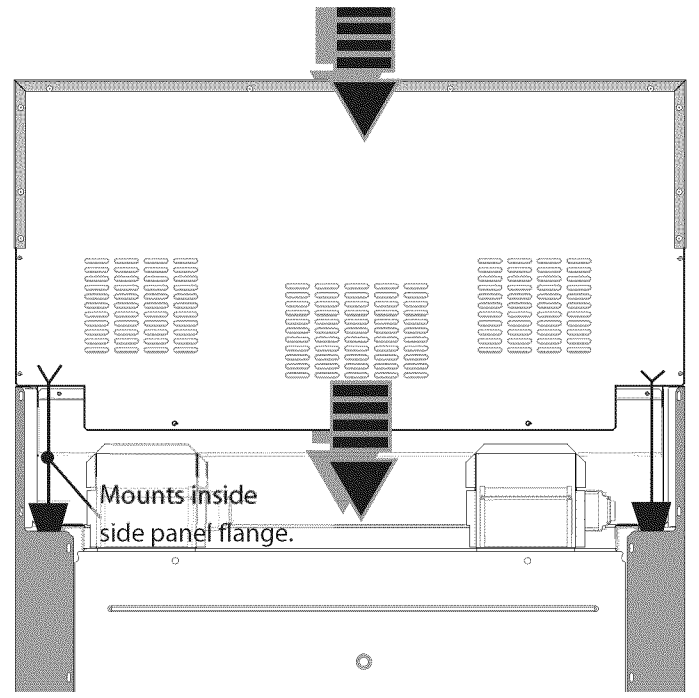

Figure 24: Backguard Installation
3. Align the back panel of the new accessory with the flanges on the range side panels right and left rear corners. The backguard is inserted inside the guide channels on the back of the range (Figure 24).